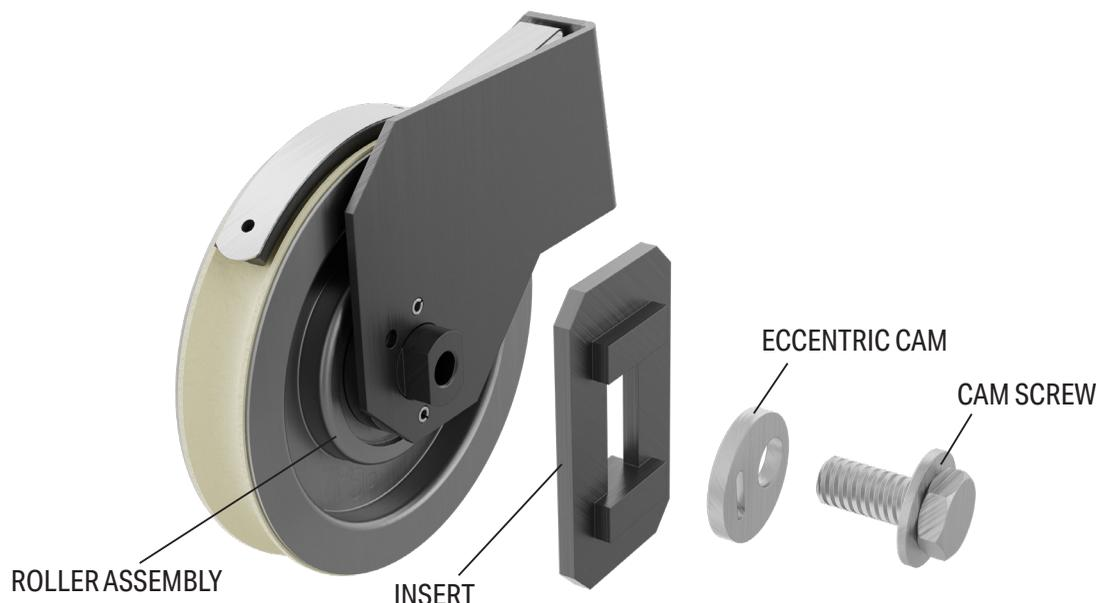

Figure 5: Roller Assembly Components
- The Track needs a minimum of (2) mounting screws to hold it in place and keep it from walking. GAL recommends at least (1) screw be placed at the leading edge of the track and at least (1) near the middle of the track.
- Locate the Roller Assembly, Cleaner Bracket, Insert, Eccentric Cam, and Cam Screw (HWSC-0355N), shown in *Figure 5*.